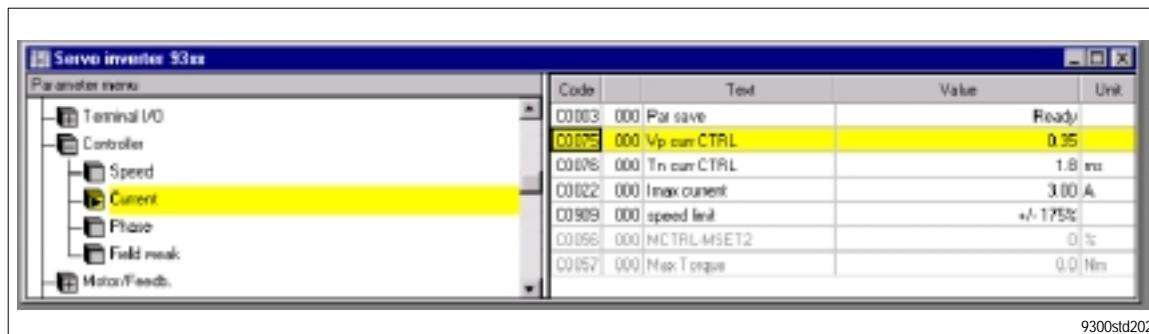

Fig. 5-2
- The current controller is adjusted under codes C0075 ( $V_p$ ) and C0076 ( $T_r$ ). For this, call the parameter menu in Fig. 5-2.